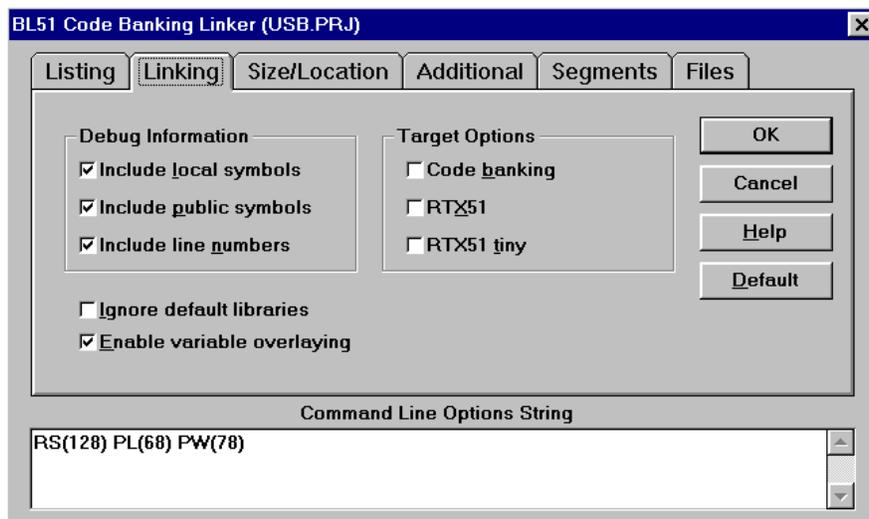

FIGURE 11
- Ensure the default conditions as shown are properly set. Note this is where the Banking, Real-time Operating System and Variable Overlaying are controlled. See Figure 11.